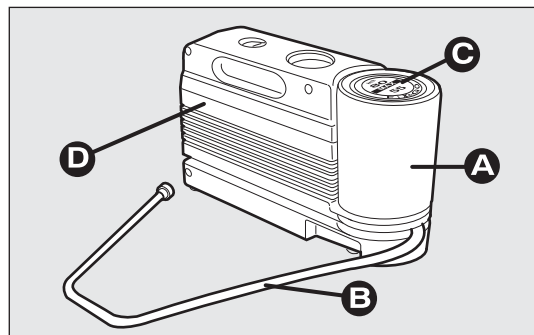

fig. 132
The kit fig. 132 includes:
- ☐ a compressor D-fig. 132 including gauge and connections, in the container;